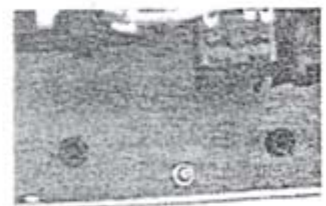

Fig. 12
3. Pump several pumps of grease into the 2 holes located towards the front of the mixer as shown in fig. 12.